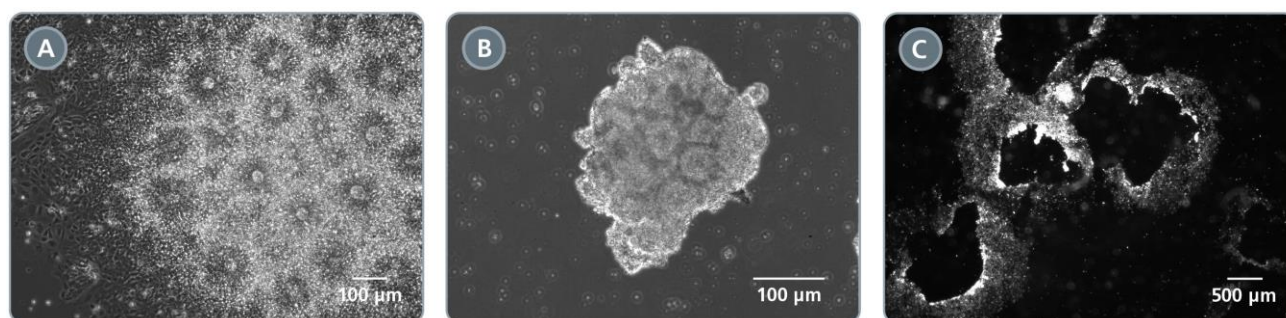

Figure 3. Selective Detachment of Neural Rosettes Using STEMdiff™ Neural Rosette Selection Reagent
9. Repeat steps 7 and 8 until the majority of the neural rosette clusters have been collected, as determined by examination under a microscope. See Figure 3 for representative examples.